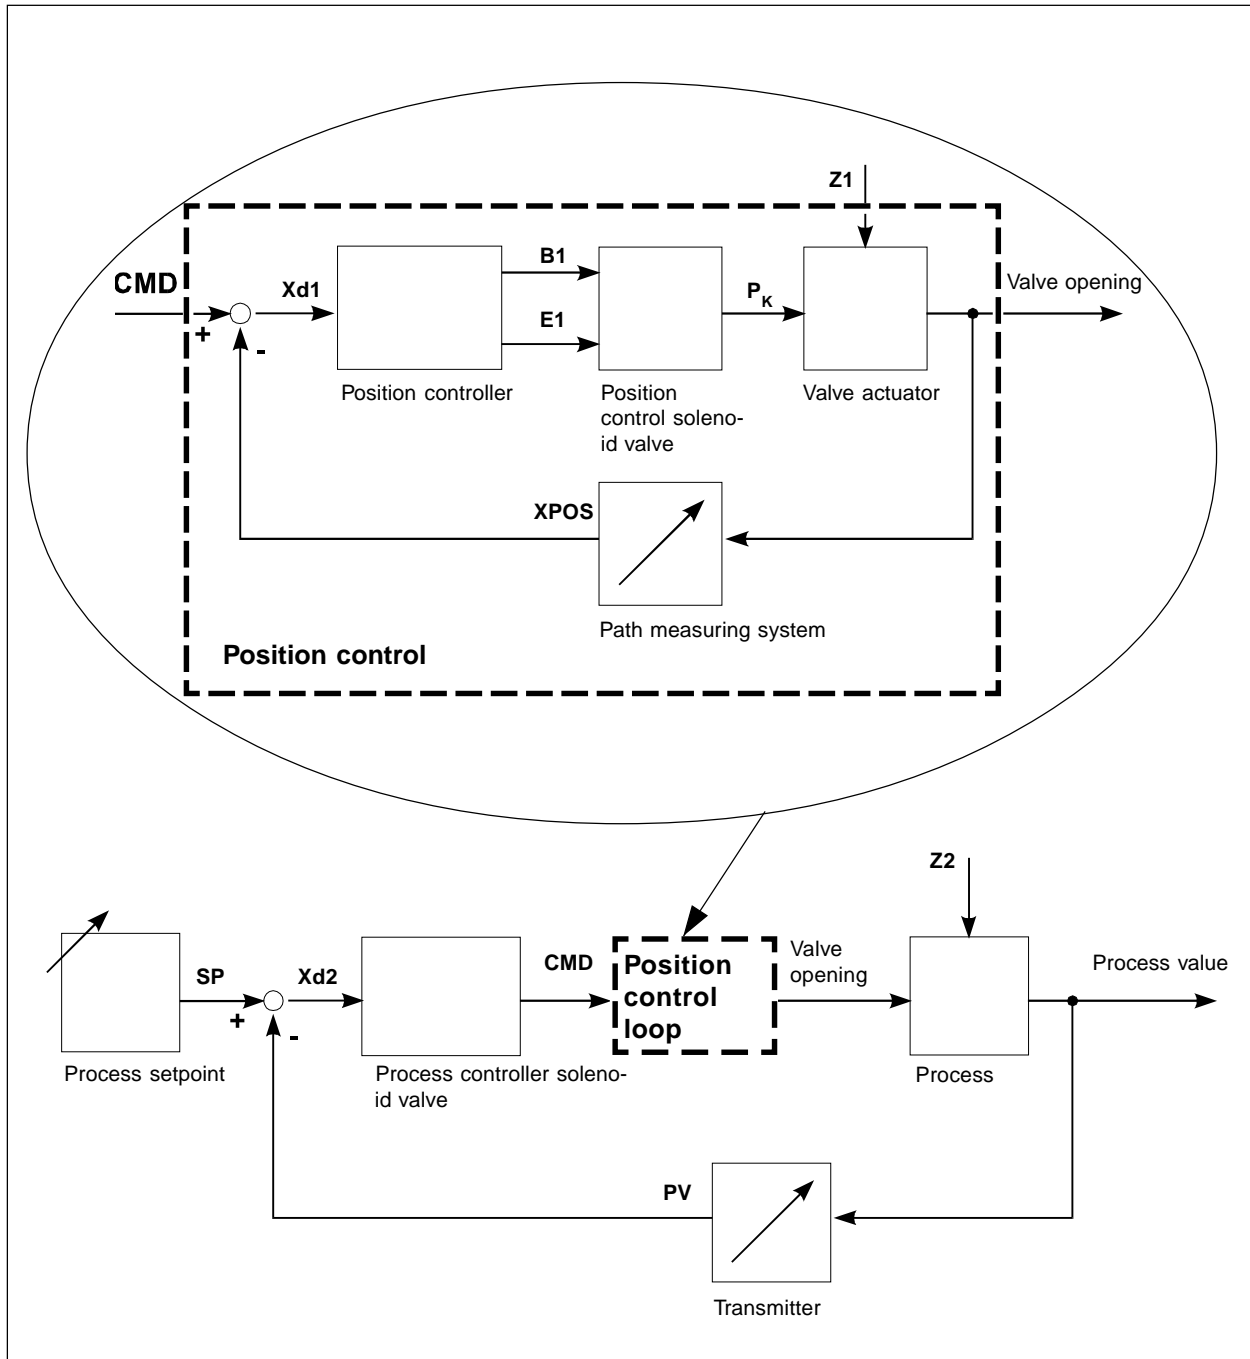

Fig 3.7: Process control diagram
3.2.2 Using the TopControl Continuous as a process controller (Fig. 3.7)